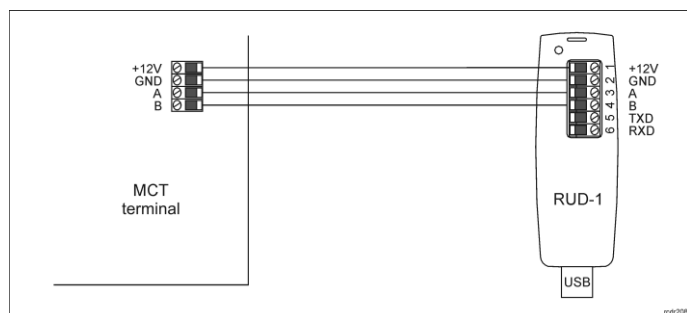

Fig. 1 Connection of MCT terminal to RUD-1 interface
1. Connect the device to RUD-1 interface (fig. 1) and connect the RUD-1 to computer's USB port.
The firmware of device can be changed to newer or older version. The update requires connection to computer with RUD-1 interface (fig. 1) and starting RogerVDM software. The latest firmware file is available at [www.roger.pl](http://www.roger.pl).